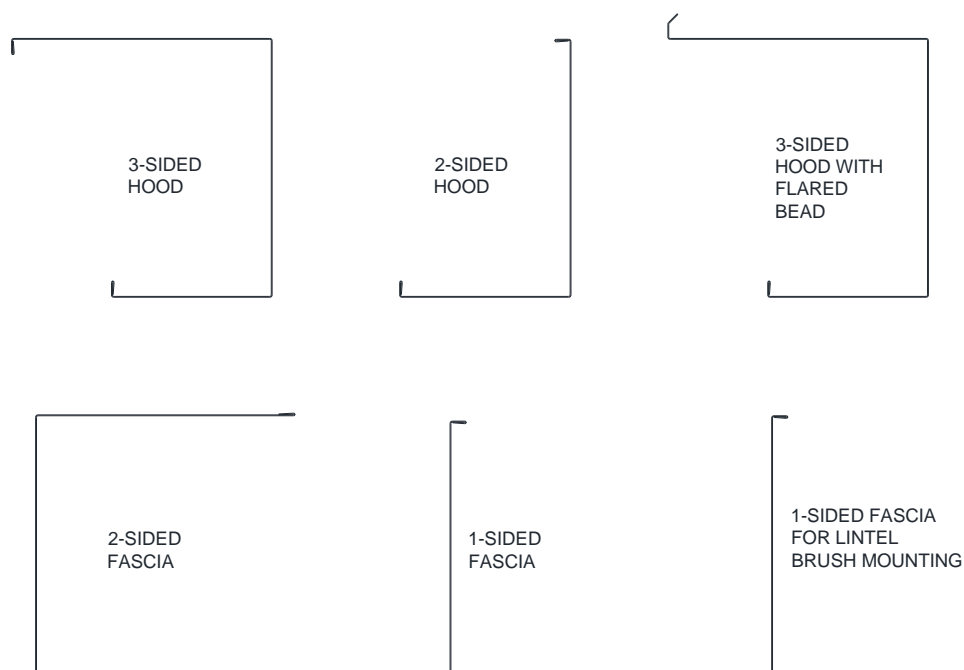

Figure 9.4 - Hood Configurations
1. Check the job construction drawings to see if the hood has multiple parts (such as a two sided hood with a fascia, two sided hood without a top piece, three sided hood with a flared top bead, etc). See **Figure 9.4** for possible hood configurations.